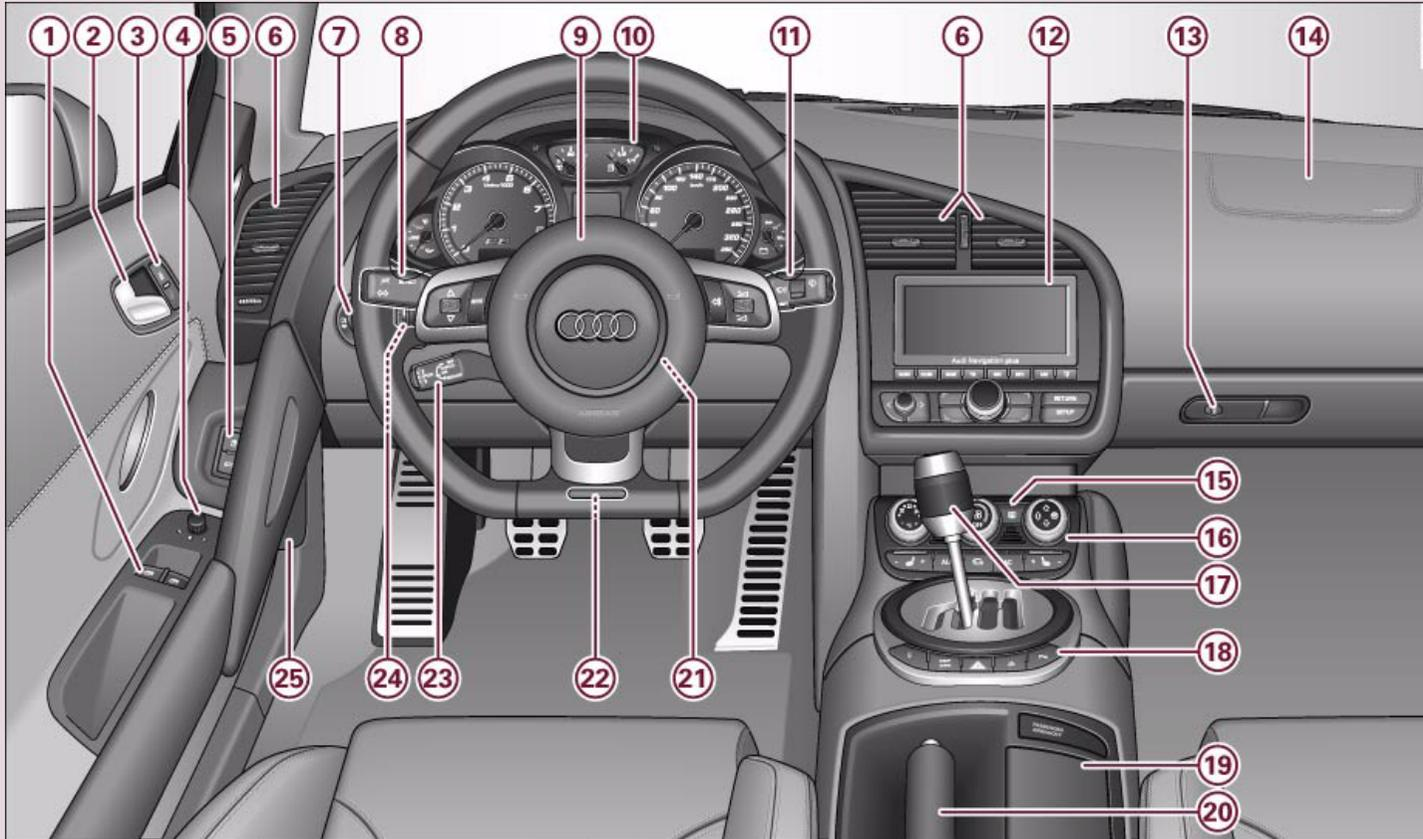

Fig. 1 Some of the items of equipment listed in this section are only fitted on certain models or are optional extras.
- The arrangement of switches and controls on right-hand drive models* may be slightly different from the layout shown in ⇒ *page 8*, fig. 1. However, the symbols used to identify the controls are the same. ■